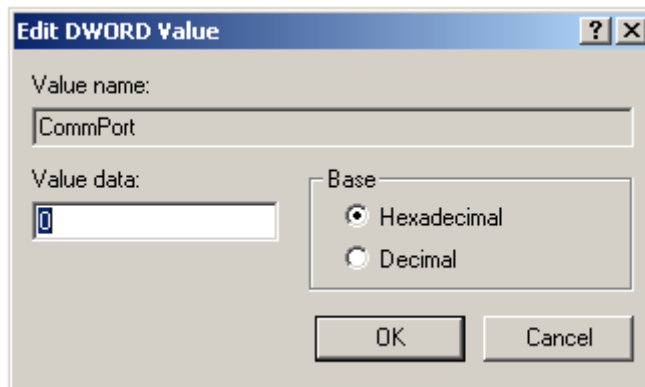

Figure 2, Edit DWord Value
10. Verify barcode scanner by clicking on "**Barcode Scanner**" and double clicking on "**CommPort**". You should see the following dialog, as shown in Figure 2.